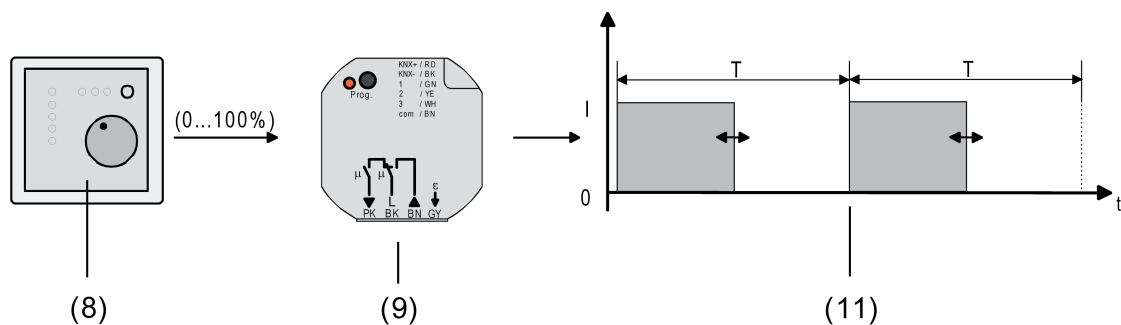

Figure 41: Command value principle for constant command value
- (8) Room temperature controller (command value "1-bit")
- (9) Blind- and heating actuator
- (10) Switching output signal for valve drives
In normal operation, the value telegram received via the 1-byte "Command value" object is converted by the device into an equivalent pulse width modulated switching signal at the valve outputs (Figure 41). Taking the cycle time (T) settable in the device into account, the average output signal resulting from this modulation is a measure of the centred valve position of the control valve and thus a reference for the set room temperature (see "Pulse width modulation for constant command values and constant valve setpoint positions").